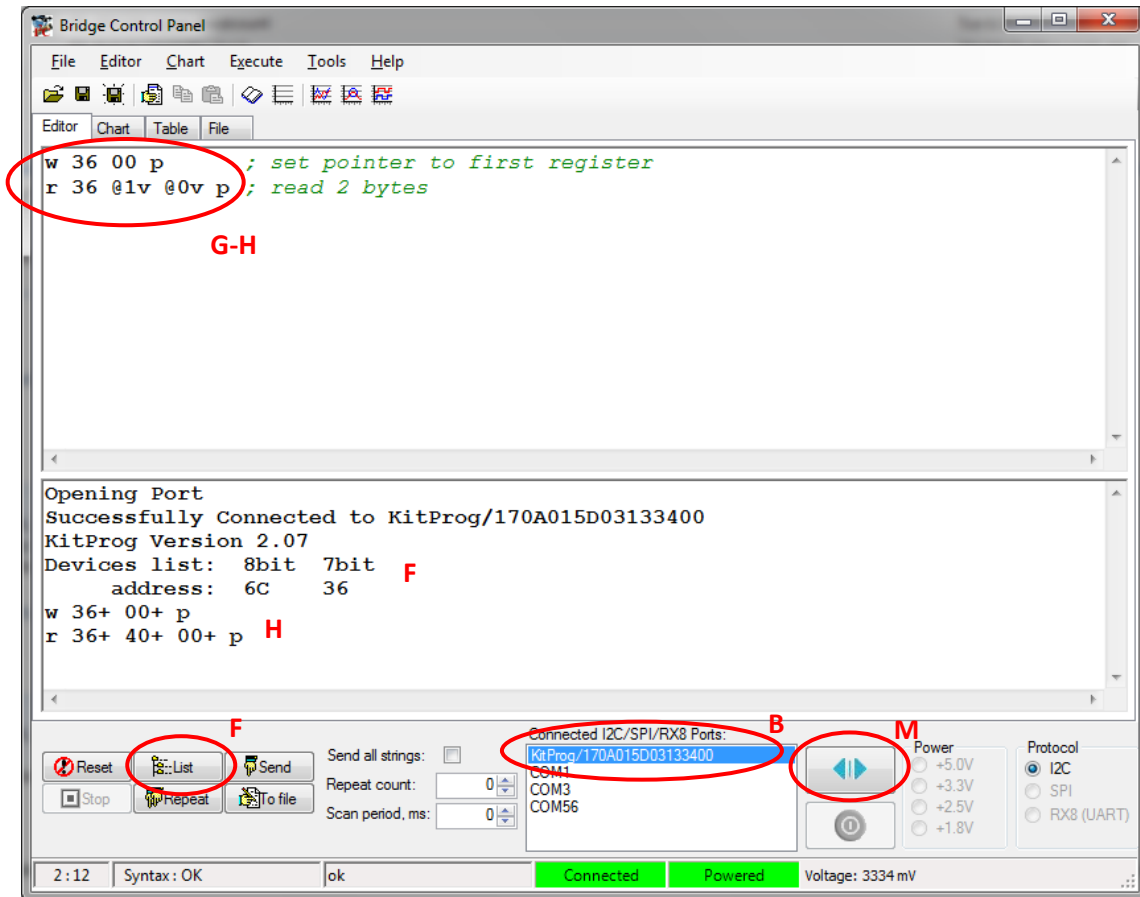

Figure 1: Bridge Control Panel Main Window
- B. Connect to the KitProg in the Bridge Control Panel and make sure the device is powered (Figure 1).
- F. Click the "List" button and verify that a device with 7-bit address 36 shows up (Figure 1).
- G. Enter the write and read commands as shown below (use Ctrl-Enter to add a new line) (Figure 1).
- H. Execute the write command and then the read command (to execute a command, click on the line containing the command and press Enter). The read command will read the ADC value for your project (Figure 1).
- M. Note: you must disconnect from the bridge to re-program the PSoC (Figure 1).